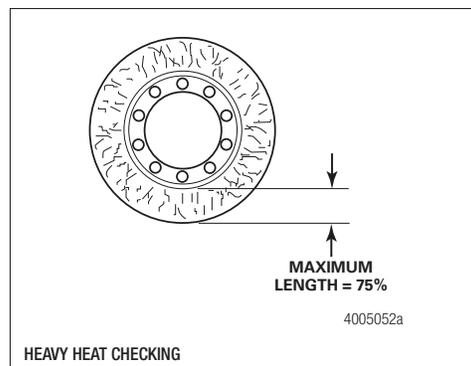

Figure 8
- Heavy Heat Checking — Heavy heat checking is surface cracks that have width and depth. Replace the rotor if the heat checks have a width greater than 0.02-inch (0.5 mm), depth greater than 0.04-inch (1 mm) and extend across the surface more than 75% in the radial direction. Figure 8.